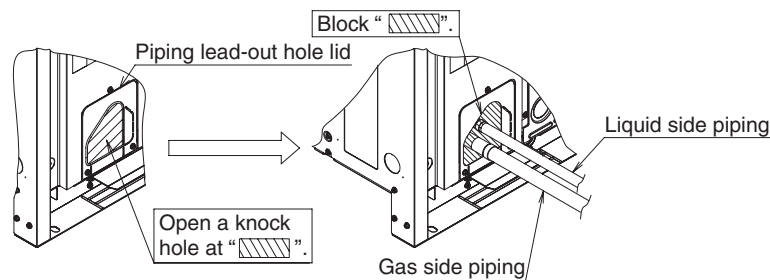

figure 30
- The piping lead-out hole lid should be attached after opening a knock hole. (**Refer to figure 30**)
- If small animals and the like might enter the unit through the piping lead-out hole, close the hole with blocking material (procured on site) after completion of “**1-11. Additional Refrigerant Charge and Check Operation**”. (**Refer to figure 30**)
- After knocking out the holes, we recommend you remove burrs in the knock holes (see figure 30) and paint the edges and areas around the edges using the repair paint.